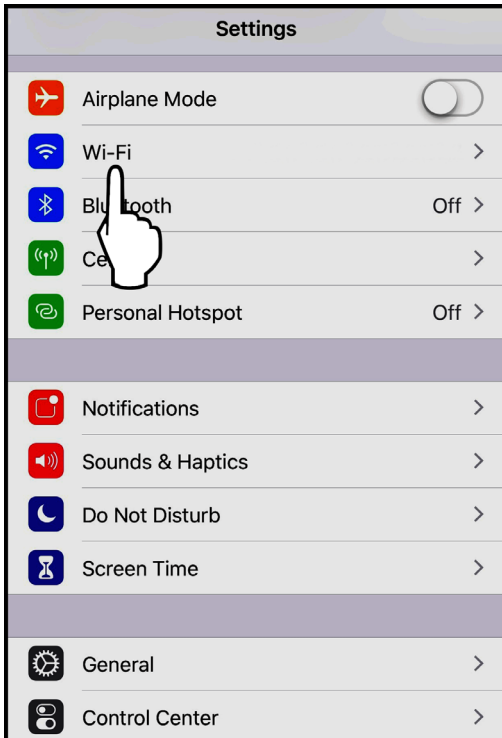

Figure 96. Select Wi-Fi Network
- Select the Wi-Fi network on the Settings menu, See **Figure 96**.